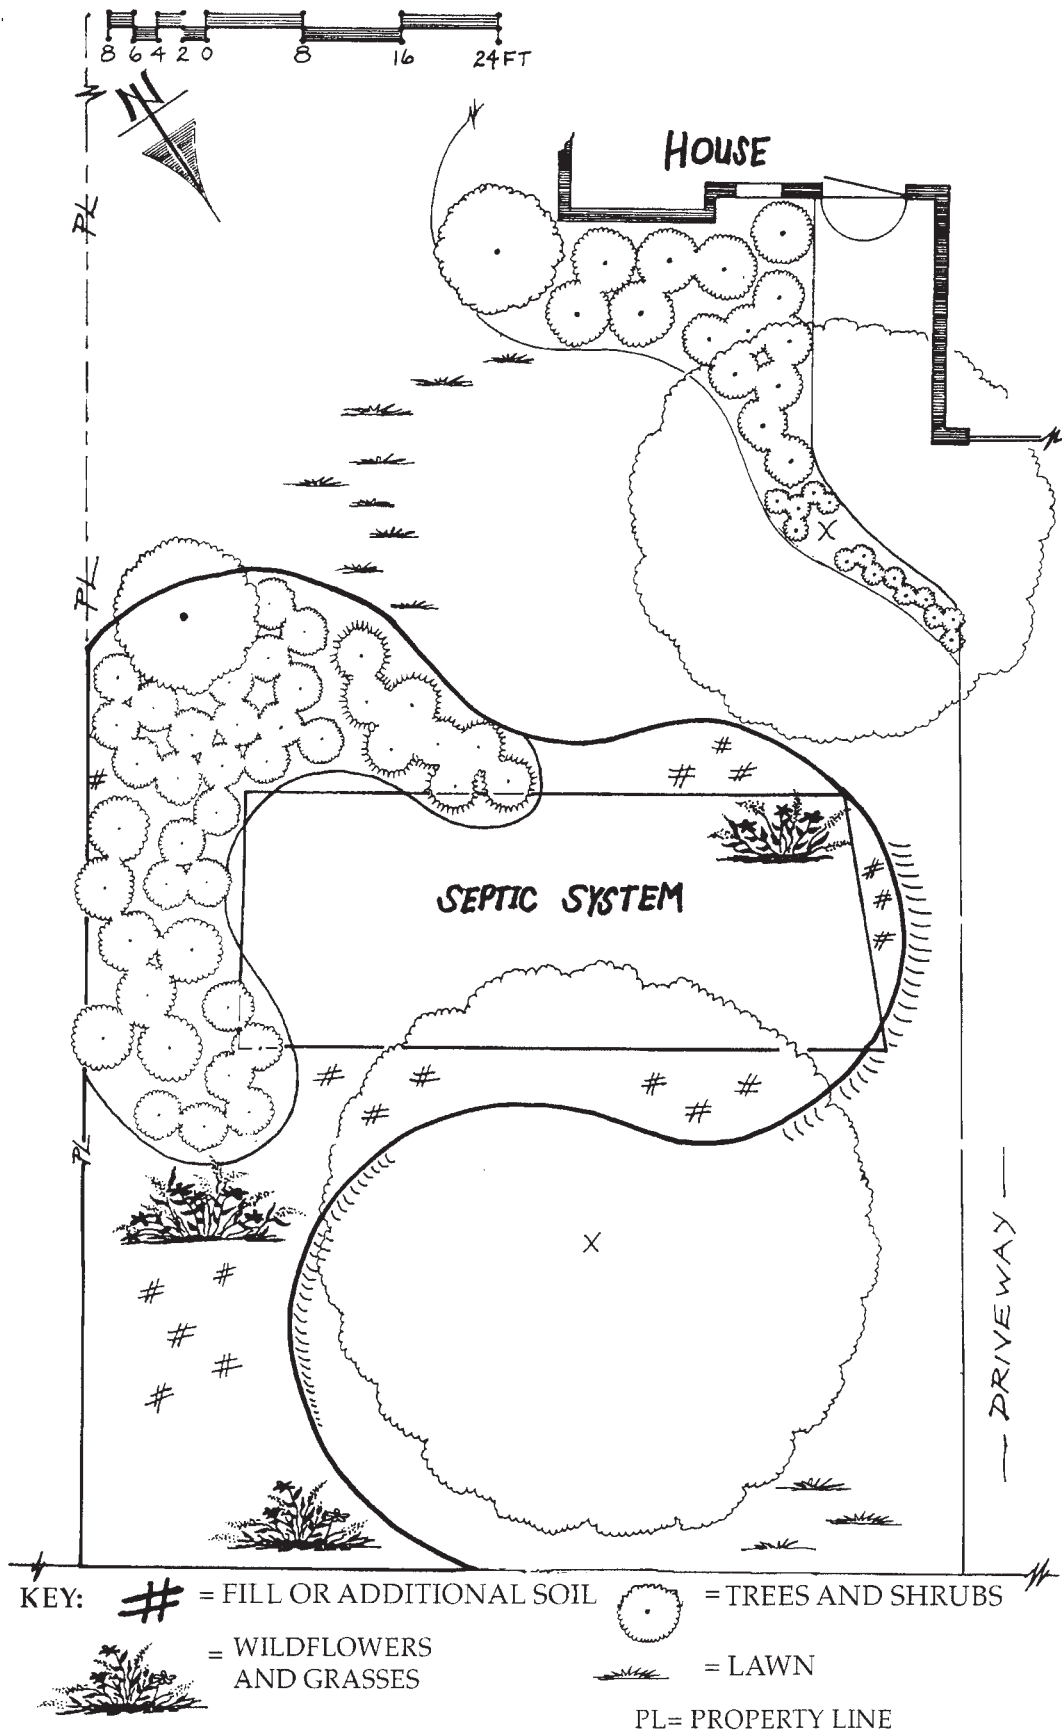

Figure 4. Model landscape plan for mound septic system.
final outcome. State and local laws set distances from wells and lakes, based on well casing depth and lake classification. Property lines (PL) or rights-of-way set backs are usually 10 feet (see Figure 4). Additionally, on even a slight slope, it is paramount that the mound rockbed be on the contour for proper operation of the system. Soil must not be moved to create a different slope, as this reduces the ability of the soil to accept the effluent. Once the drainfield or mound is determined, protect it from compaction and disturbance to ensure proper sewage treatment.
an **unbroken turf area** as the **first priority**, then place the septic system beyond the bedline disguising it as part of a shrub or perennial area or screening it with trees or large shrubs. If your property is smaller, blending the mound into the overall landscape is still the key. Try moving the focal point from the mound to other plants or features. **Extending the actual berm** with additional topsoil at the same height and curving the perimeter, then sloping down and away can conceal the existence of the system (see Figure 4). If the drainfield must be located near a drive, patio, or walkway, retaining walls may be used to save space, but only on the uphill side of the berm. Connect the extended berm to another large feature in the yard, such as a pool enclosure or other fenced area, using retaining walls for transition. **ALWAYS** design with the entire yard or viewing area in mind—connect it to the whole picture.